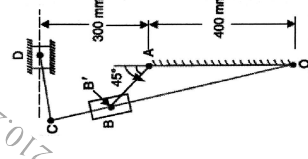

Fig. 3.
7. (a) A mechanism of crank and slotted lever quick return motion is shown in figure 3. If the crank rotates counter clockwise at 120 rpm. Determine for the given configuration the velocity and acceleration of the ram D. Also determine angular acceleration of the slotted lever. [12]